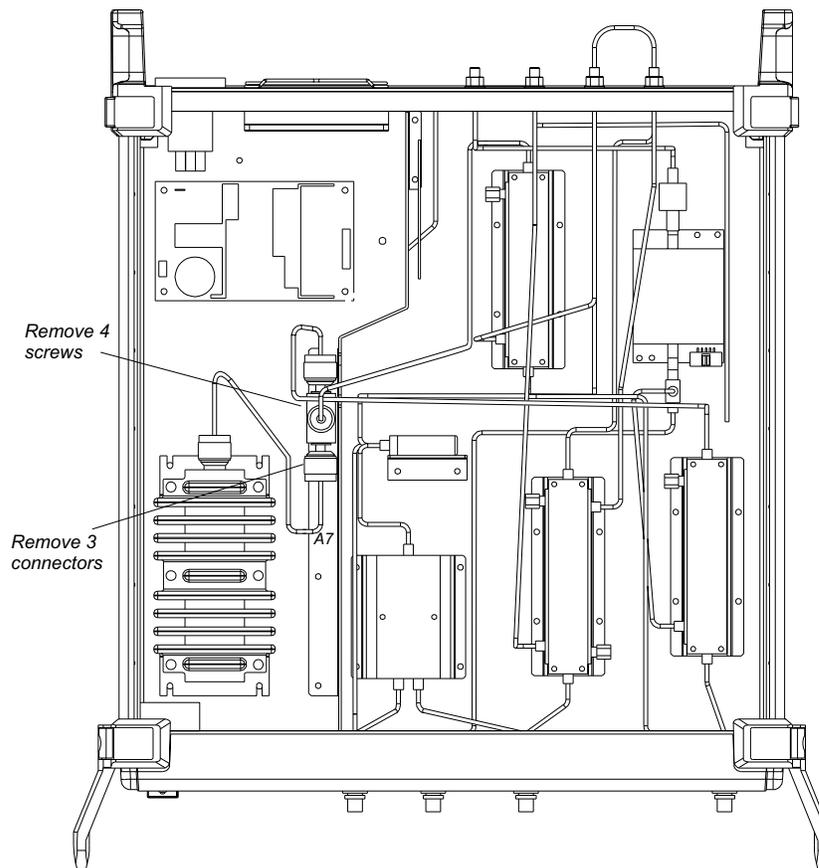

Figure 5-8. A7 Circulator Removal
- Step 2.** Disconnect semirigid cables in three places (Figure 5-8).